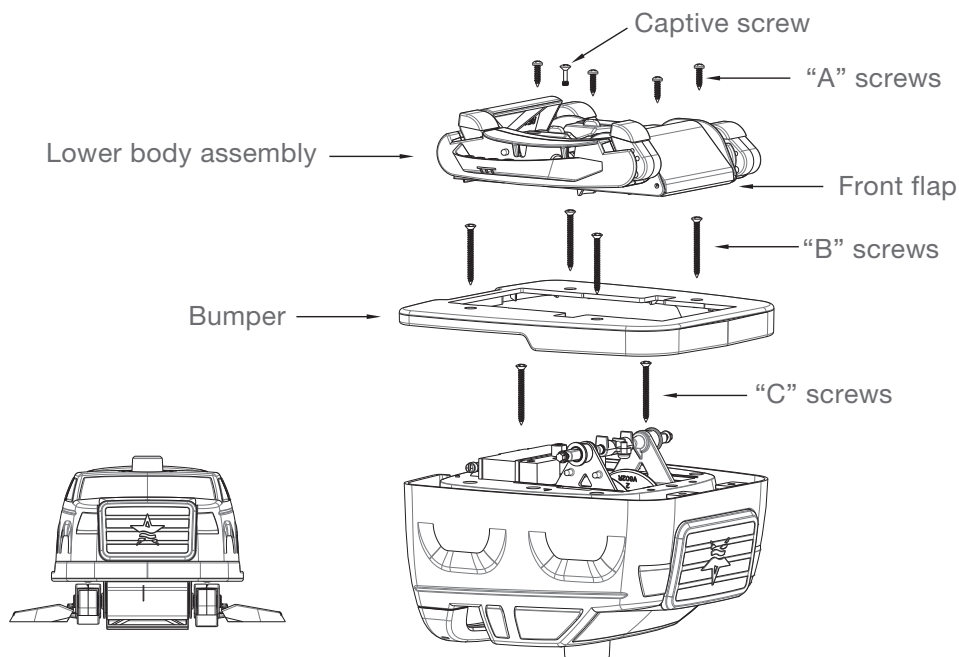

Fig. 14
5. Locate and loosen the captive screw behind the throat in the center of the bottom (see Figs. 14, 15 & 16).
7. Remove four “A” screws (see Fig. 14).
8. Lift the lower body assembly off the StarzTruck automatic pool cleaner (see Fig. 14).
9. Remove four “B” screws (see Fig. 14).
11. Remove two “C” screws (see Fig. 14).